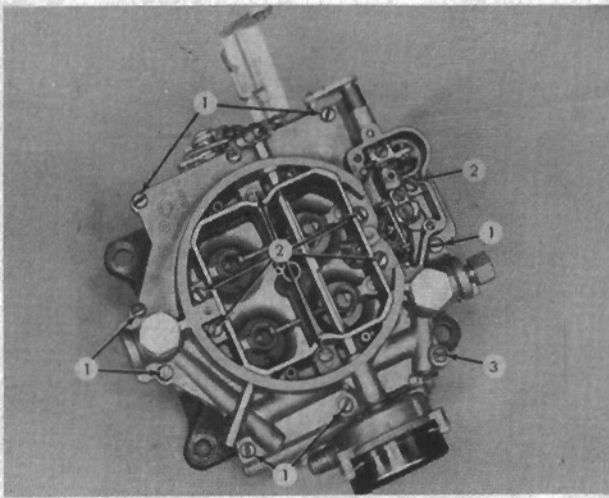
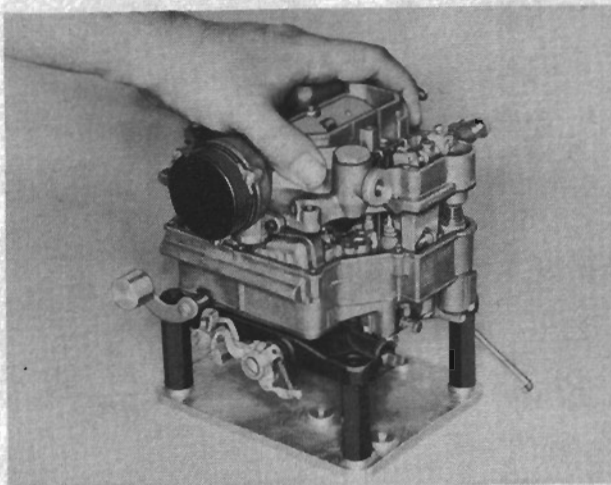

FIG. 84
FIG. 85
Air Horn—Remove the dust cover screws and washers, and remove the cover and gasket. Remove 16 air horn attaching screws. Note there are three different lengths: eight short screws (1, Fig. 84), seven long screws (2), and one medium length screw (3). They must be installed in their proper locations as shown in Fig. 84. *Note.*—On cars equipped with a dash pot, the mounting bracket screws will be longer than screws (1) in proportion to the thickness of the mounting bracket. Carefully lift the air horn assembly straight upward from the carburetor body assembly (see Fig. 85).